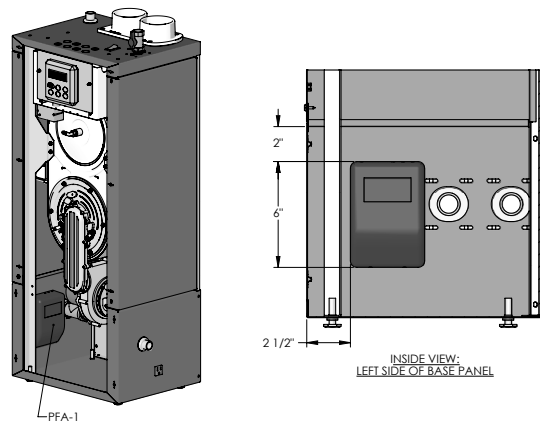

Figure 2
- Figure 2 shows the suggested mounting location for the PFA-1 Interface Adapter on the PF-200, PF-210, PF-300, and PF-399 boilers.